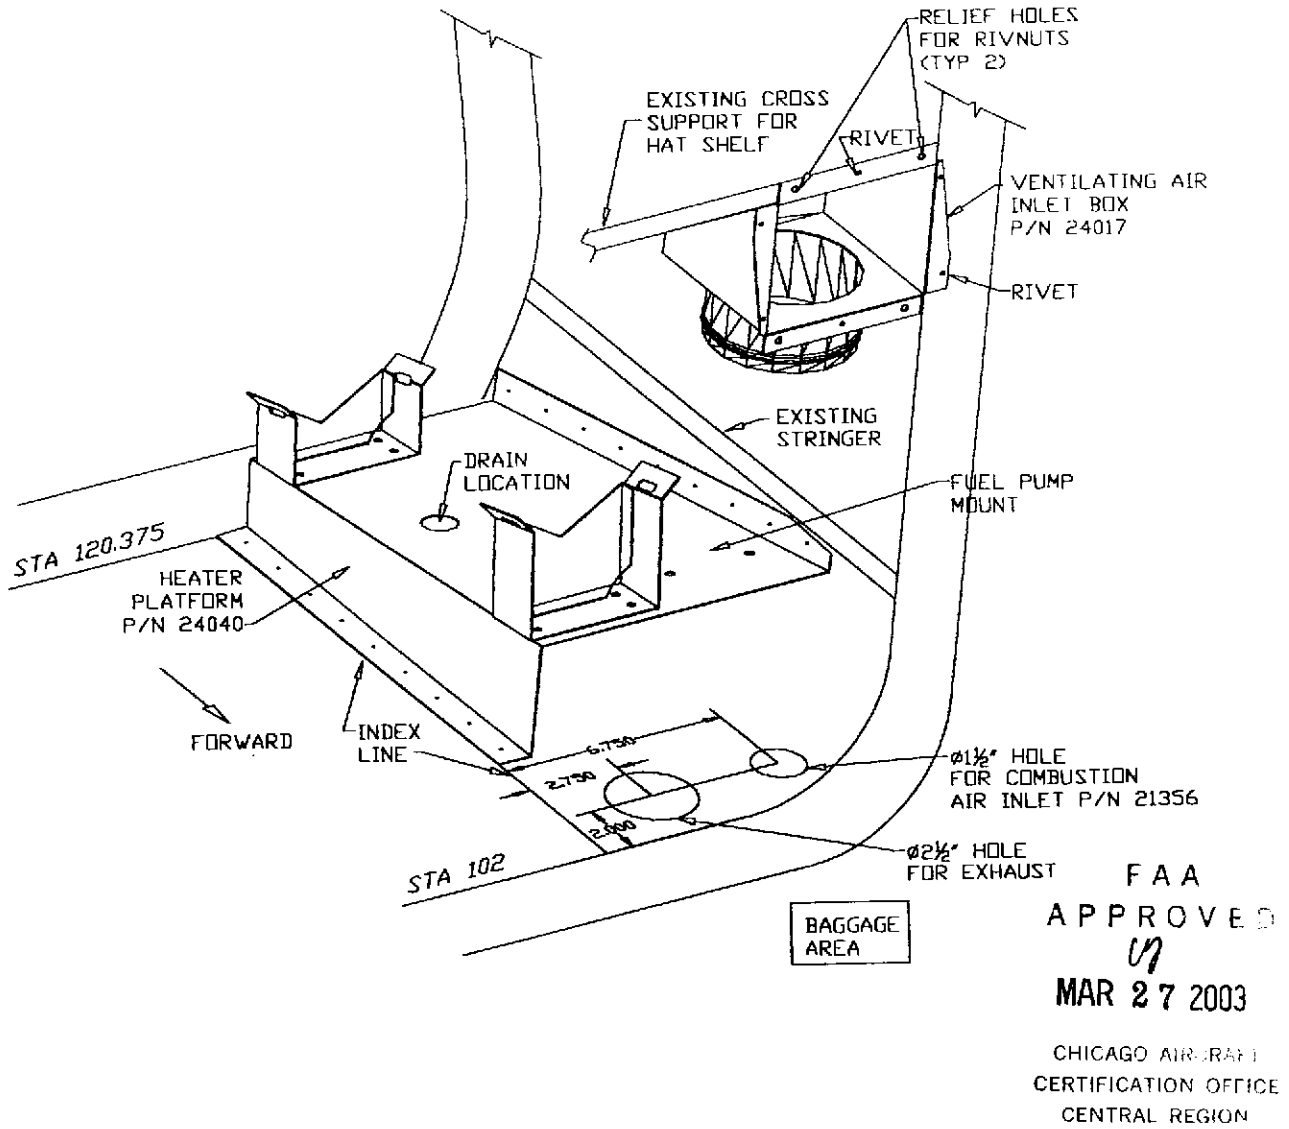

Figure 1
2. Heater Platform Installation: (AC43.13-1B Chapter 4, Section 4, Par. 4-57, Riveting) (See Figure 1)
3. Fuel Pump: (See Figure 1)
6. Inlet Plenum: (P/N 24017) (See Figure 1)